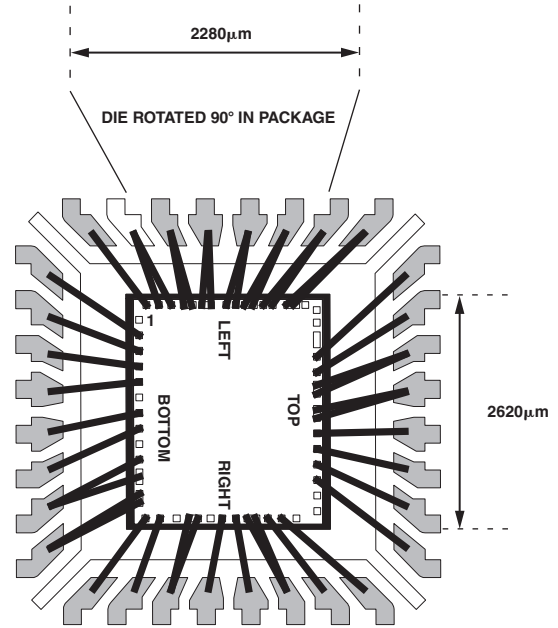

Figure 3. Bonding Diagram
- ²The high speed performance for the die version of ADN2847 can be achieved when using the bonding diagram shown in Figure 3.